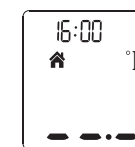

Figure 4
1. Press the BUTTON to turn on the thermometer, you can take the object temperature after hearing two beep sounds.(see figure 4)